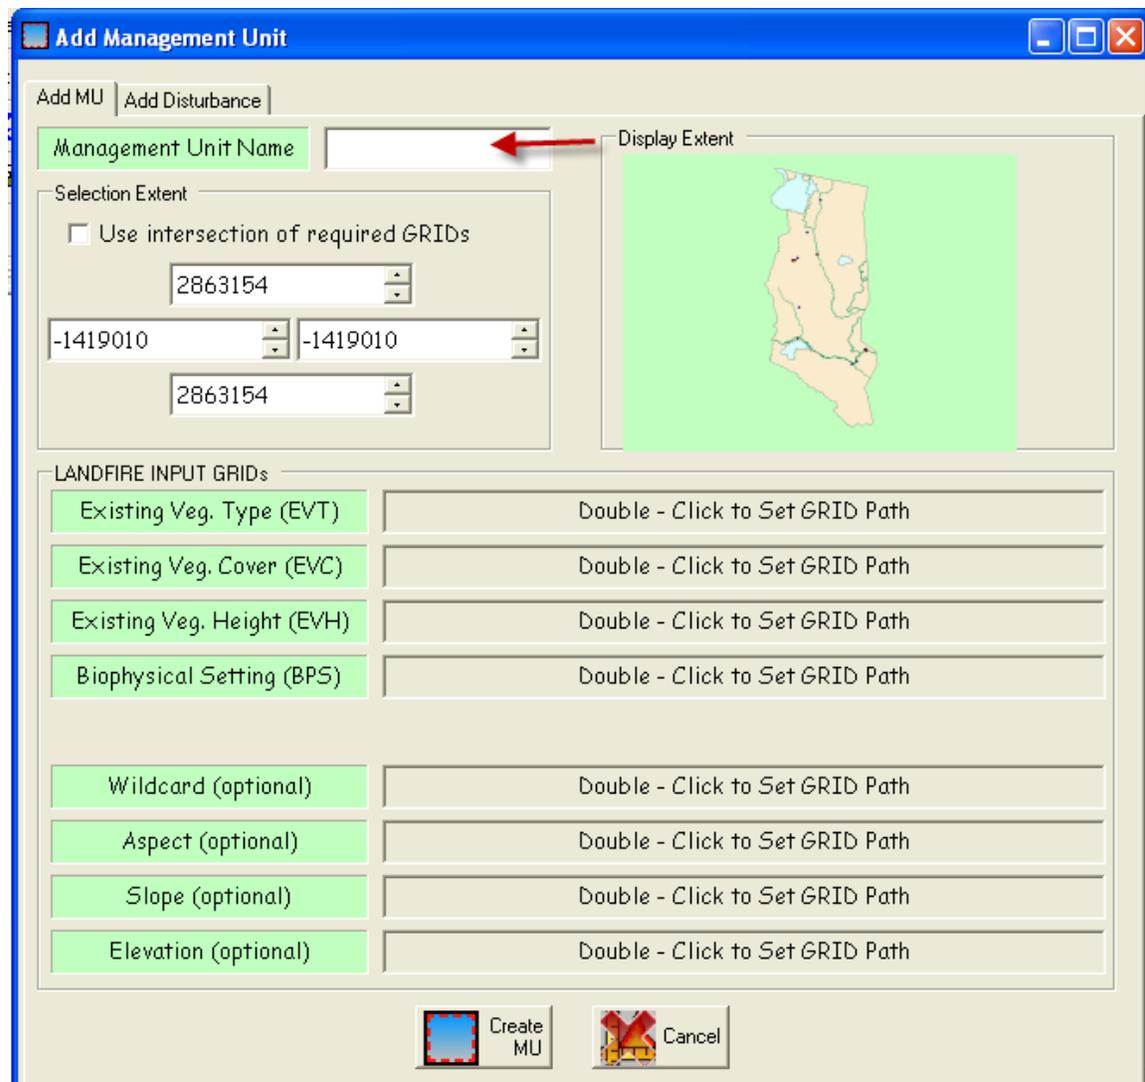

Figure 7-16. **Add Management Unit** dialog box.
The **Add Management Unit** dialog box opens, as shown below (fig. 7-16). It serves as a drawing rectangle, which is used to identify the spatial extent of the area to be analyzed or to define the Management Unit. In ArcMap, the icon works the same way as any tool used to define an extent.
- When you have finished all entries for both tabs on the **Add Management Unit** dialog box, click the **Create MU** button at the bottom of the **Add MU** page (fig. 7-16).